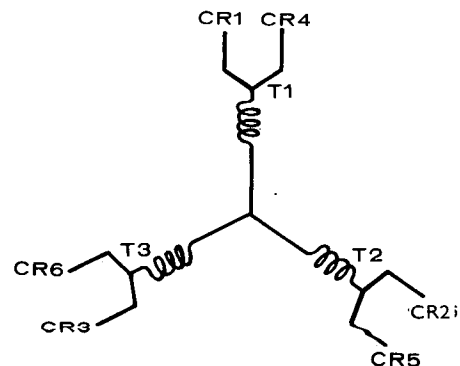

FIGURE 14. TESTING EXCITER ARMATURE
**Testing winding resistance:** Using a Wheatstone or Kelvin bridge meter, measure resistance between leads pairs T1-T2, T2-T3 and T1-T3. Resistance should be 0.496-0.607 ohms at 20° C (68° F). See Figure 14.